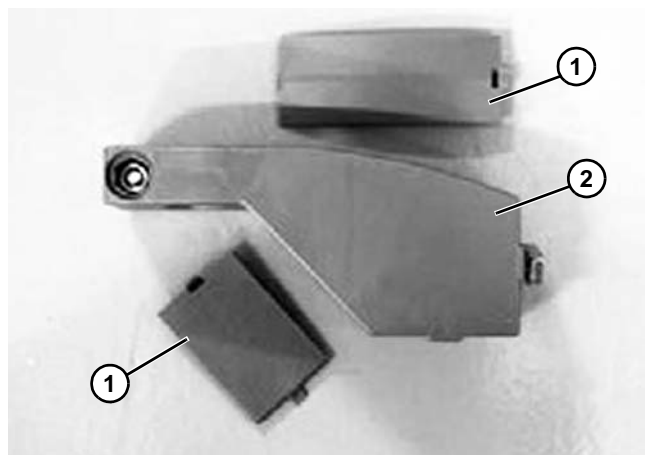

Figure 100
1. Open the upper and lower caps (**Figure 100, item 1**) on FGRB - 40 guide rail bracket (**Figure 100, item 2**), and install T-bolt.